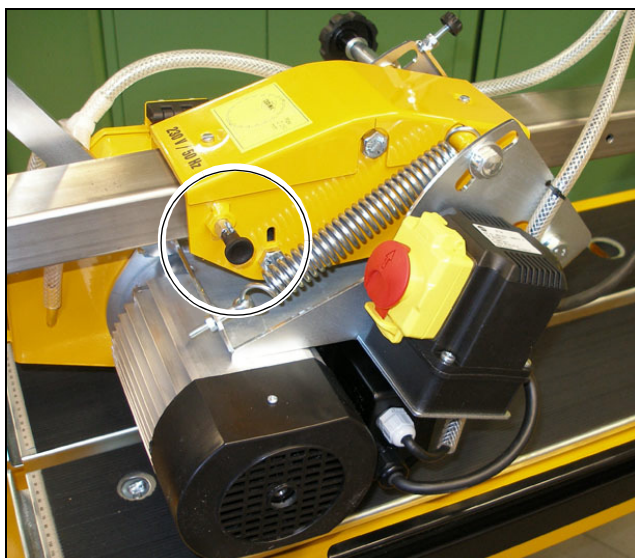

Fig. 3.10 Detent pin on the guide carriage
- Verify the easy movement of the carriage on the guide rail. For that purpose, pull the detent pin on the guide carriage and turn by 90° (Fig. 3.10 and 3.11).